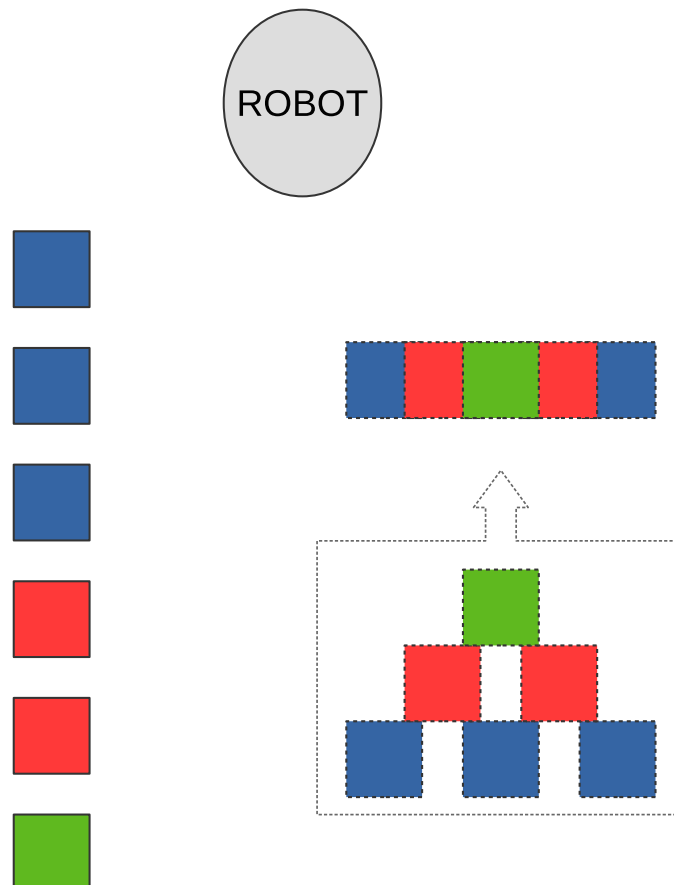

Figure 2: The setup for Task 1 and Task 2
**Task 1** In the first task you are asked to use the robot to move six wooden cubes from their initial configuration (a line) to a pyramid configuration as visualized in Figure 2. You can manually move the head of the robot in order to find the relative position of the cubes from the robot and then propose a sequence of action blocks that will enable the robot to move each cube from one position to another.